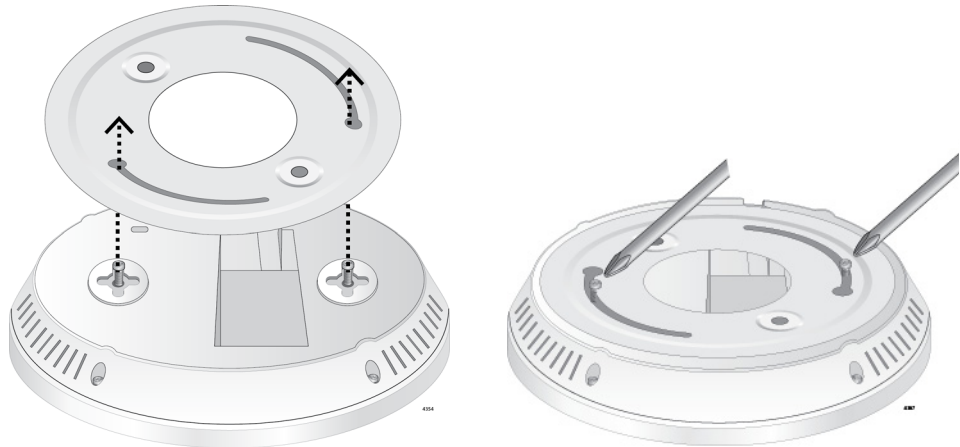

Figure 21. Adjusting the Screws on the Access Point
4. Apply the mounting base to the access point and adjust the height of the screws where the access point can be turned to be secured to the mounting base as shown in Figure 21.